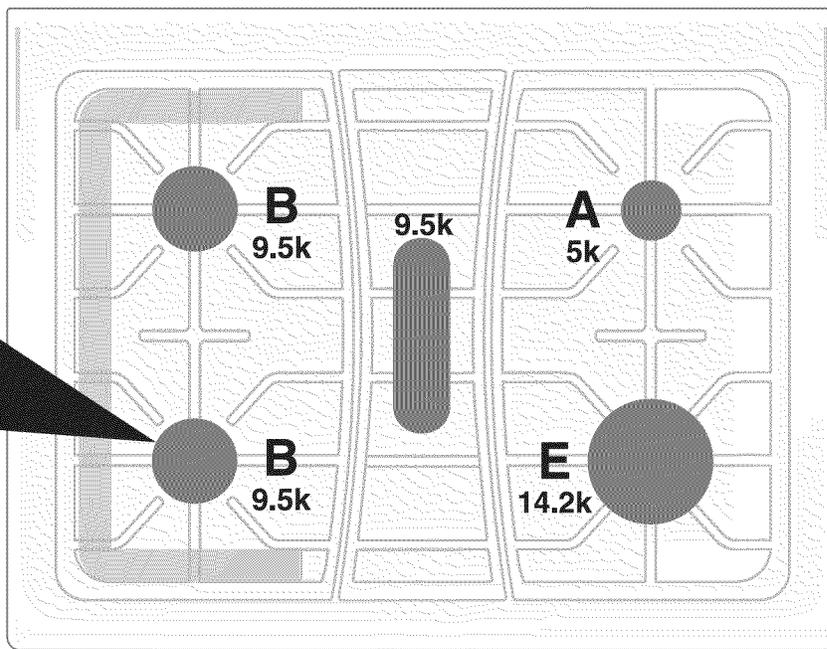

Fig. 5
- Replace the orifice in each of the orifice holders with kit supplied LP/Propane gas orifice (refer to the LP Kit chart listed on page 1; also refer to Fig. 5 for the correct LP orifice installation at each of the surface burner locations). Tighten each orifice until snug. Use CAUTION not to overtighten.
- Remove the LP burner orifices using 7mm nutdriver & replace with the original factory installed natural gas orifices at their original locations (See Fig. 5 for locations).